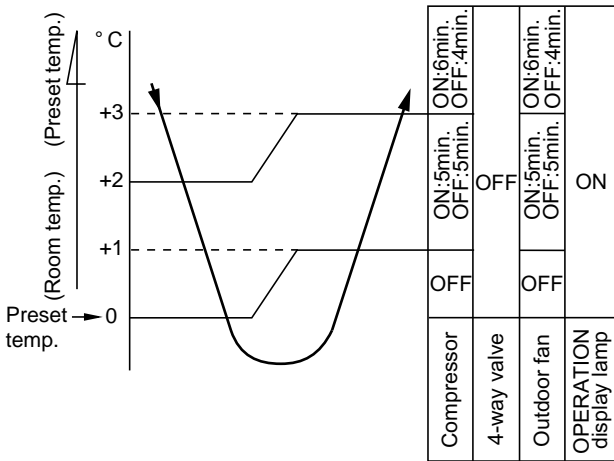

Fig. 7-3-4
- (1) The compressor, 4-way valve, outdoor fan and operation display lamp are controlled as shown in Fig. 7-3-4.